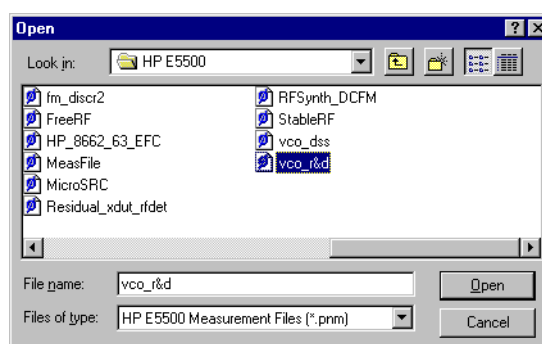

Figure 11-19 Select the Parameters Definition File
- 3 In the **File Name** box, choose “**vco_r&d.pnm.**” See Figure 11-19.